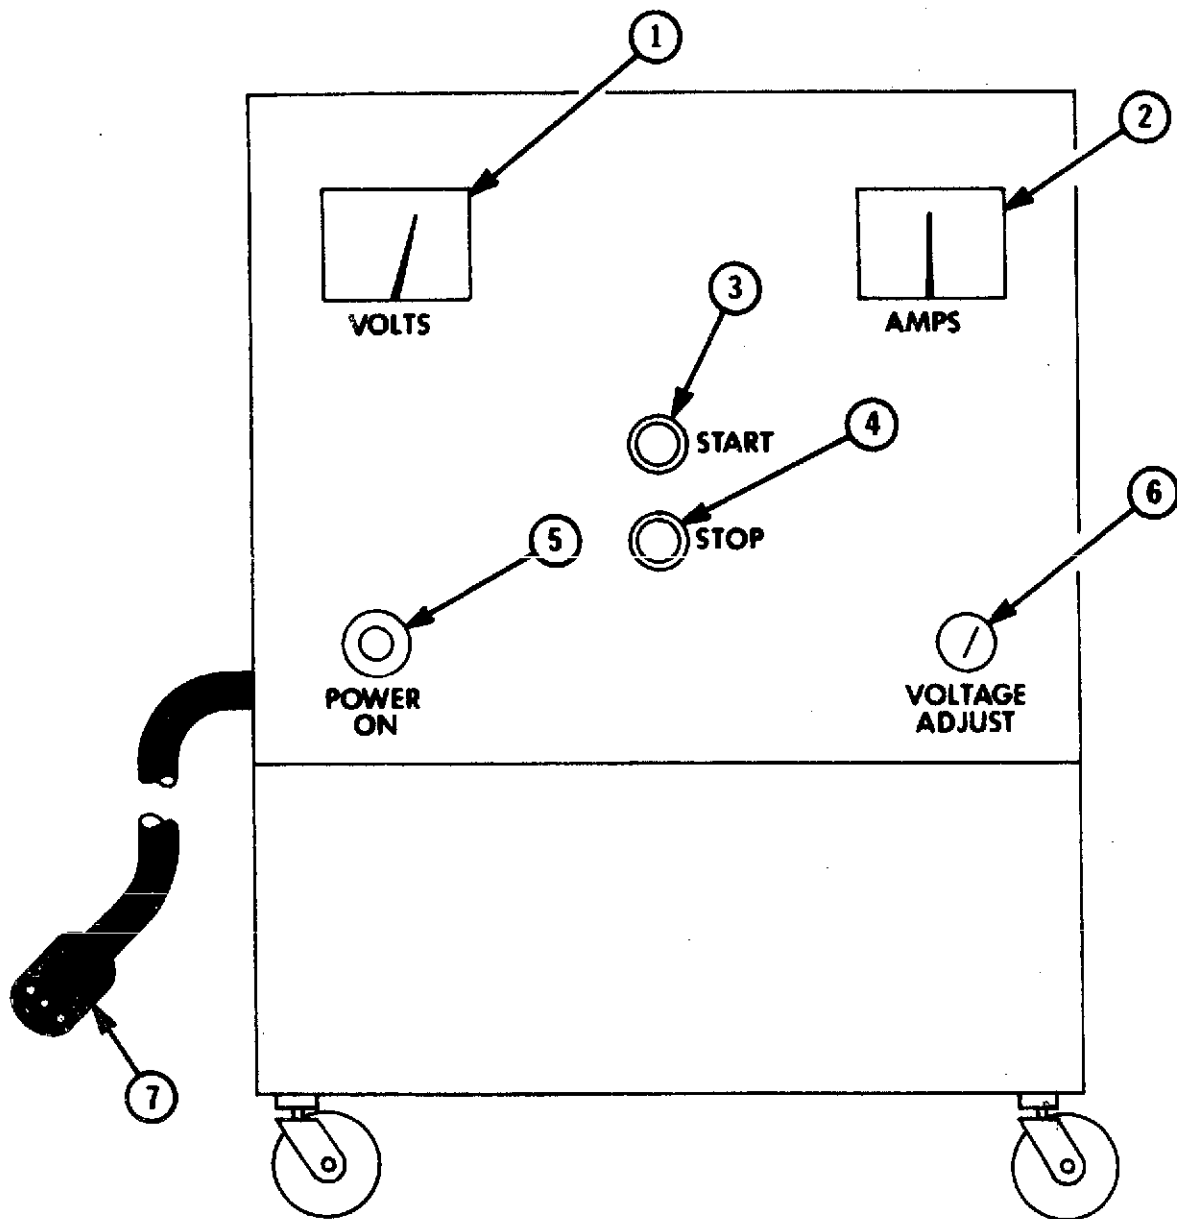

Figure 2-15. NASA-6 Ground 28V Power Supply
2.16 NASA-6 GROUND 28V POWER SUPPLY (FIGURE 2-15)